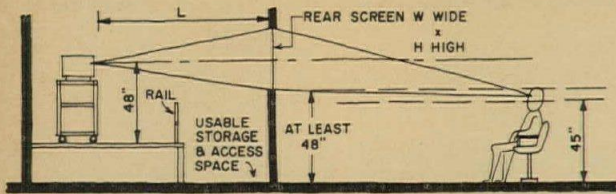
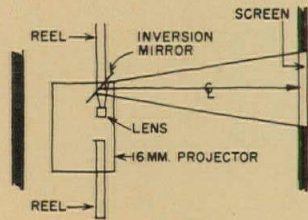

Figure 21: Mounting height of screen and projectors
Figure 22: Placement of movie projector for rear screen use
1. The center of the lens of all projectors (optical center line) should be located 48 in. above the surface on which the operator stands. (See figure 21.) This assures that the average person can operate, thread, change slides, etc. in perfect comfort and safety. If this cannot be done, then a casted safety step platform should be used to provide the same working height.
3. When 16mm movie projector is used rear screen, the image must be inverted left-to-right, necessitating a small mirror attachment to the projector. This means the projector must be turned sideways. The distance L used in figure 21 is measured along the centerline of the "folded" light beam of figure 22.